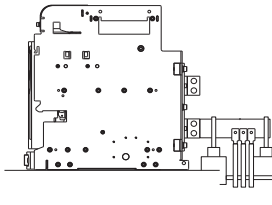

Fig. 2
- When connecting several cables they should be fastened together and fixed on the frame of fixed structure (Fig. 2).